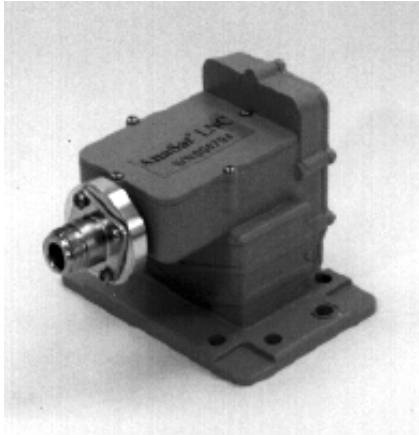
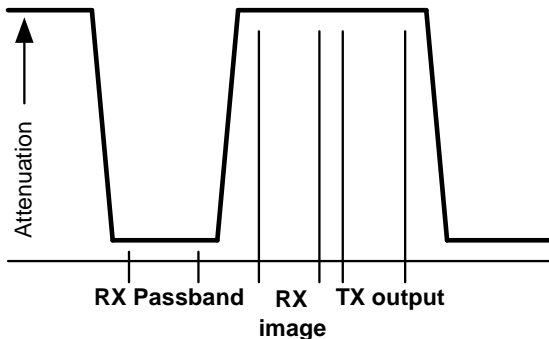

Figure 4-2. The LNC
Figure 4-4. TR Filter Passband Characteristics.
The receive signal from the antenna's feed horn is fed via a CPR-229G waveguide coupler into the (optional) Transmit Reject (TR) filter (refer to Figures 4-2 and 4-3). This filter attenuates both the transmit signal and the receiver's image (LO + IF), preventing severe overload of the LNC. TR filter passband characteristics are shown in Figure 4-4.